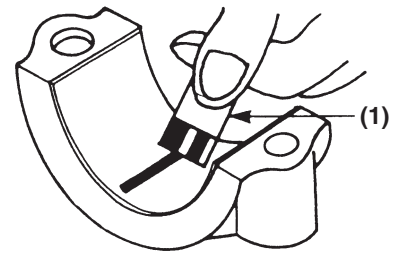

Figure 6-58
9. Compare the width of the flattened PLASTIGAGE (**Figure 6-58, (1)**) to the graduation marks on the package. The mark that most closely matches the width of the flattened PLASTIGAGE will indicate the bearing oil clearance. Record the measurement. See *Crankshaft on page 6-8 for clearance specifications.*